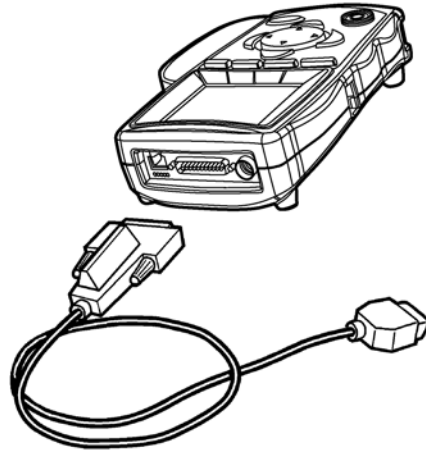

Figure 2.11: DB25 Power Cable Connection to *APOGEE* Tool
- 1 Connect the cable's 25-pin connector to the DB25 port on the top of the **APOGEE** tool. Finger tighten the connecting screws (see figure 2.11).